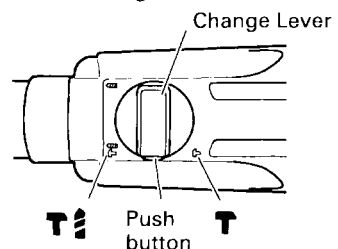

Fig. 12
- (1) Mount the bull point or cold chisel.
- (2) Press the push button and set the change lever to middle of **T** mark and **T** mark. (Fig. 12)